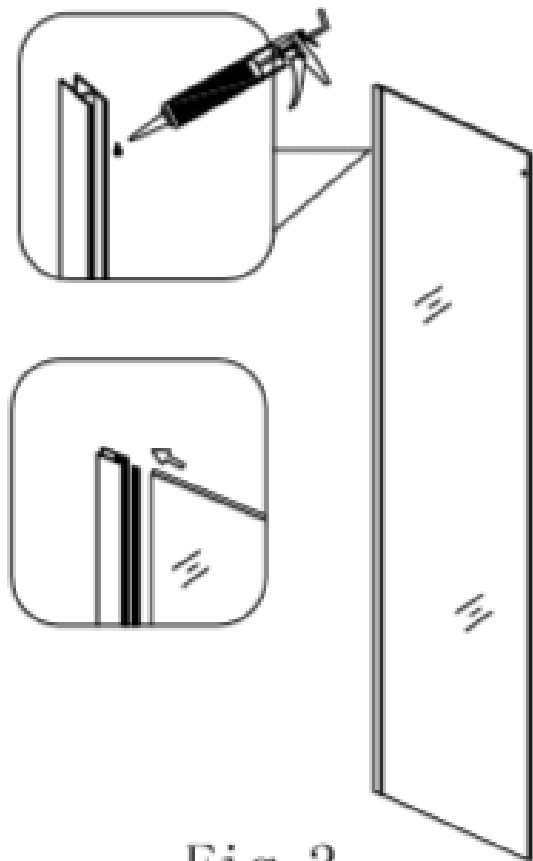

Fig 2
2. Seal with silicone inside the **glass profile (5)**, then put the **return panel glass (7)** into glass profile, and then insert the **unilateral strip (8)**. (Fig 2)